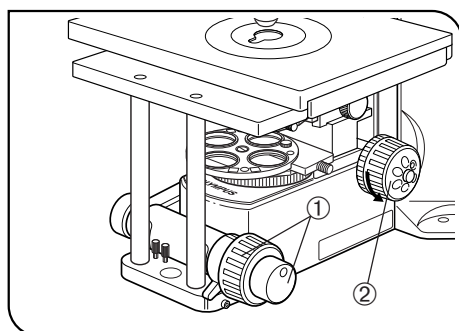

Fig. 46
#### Adjusting the Confocality of Objective (Figs. 46 & 47)
4. The objective to use the washer is determined by the rotation direction of the fine adjustment dial ②. (Fig. 46)
5. Remove the objective ③, fit the washer ⑤ with the required thickness on the screw ④, then attach the objective again.